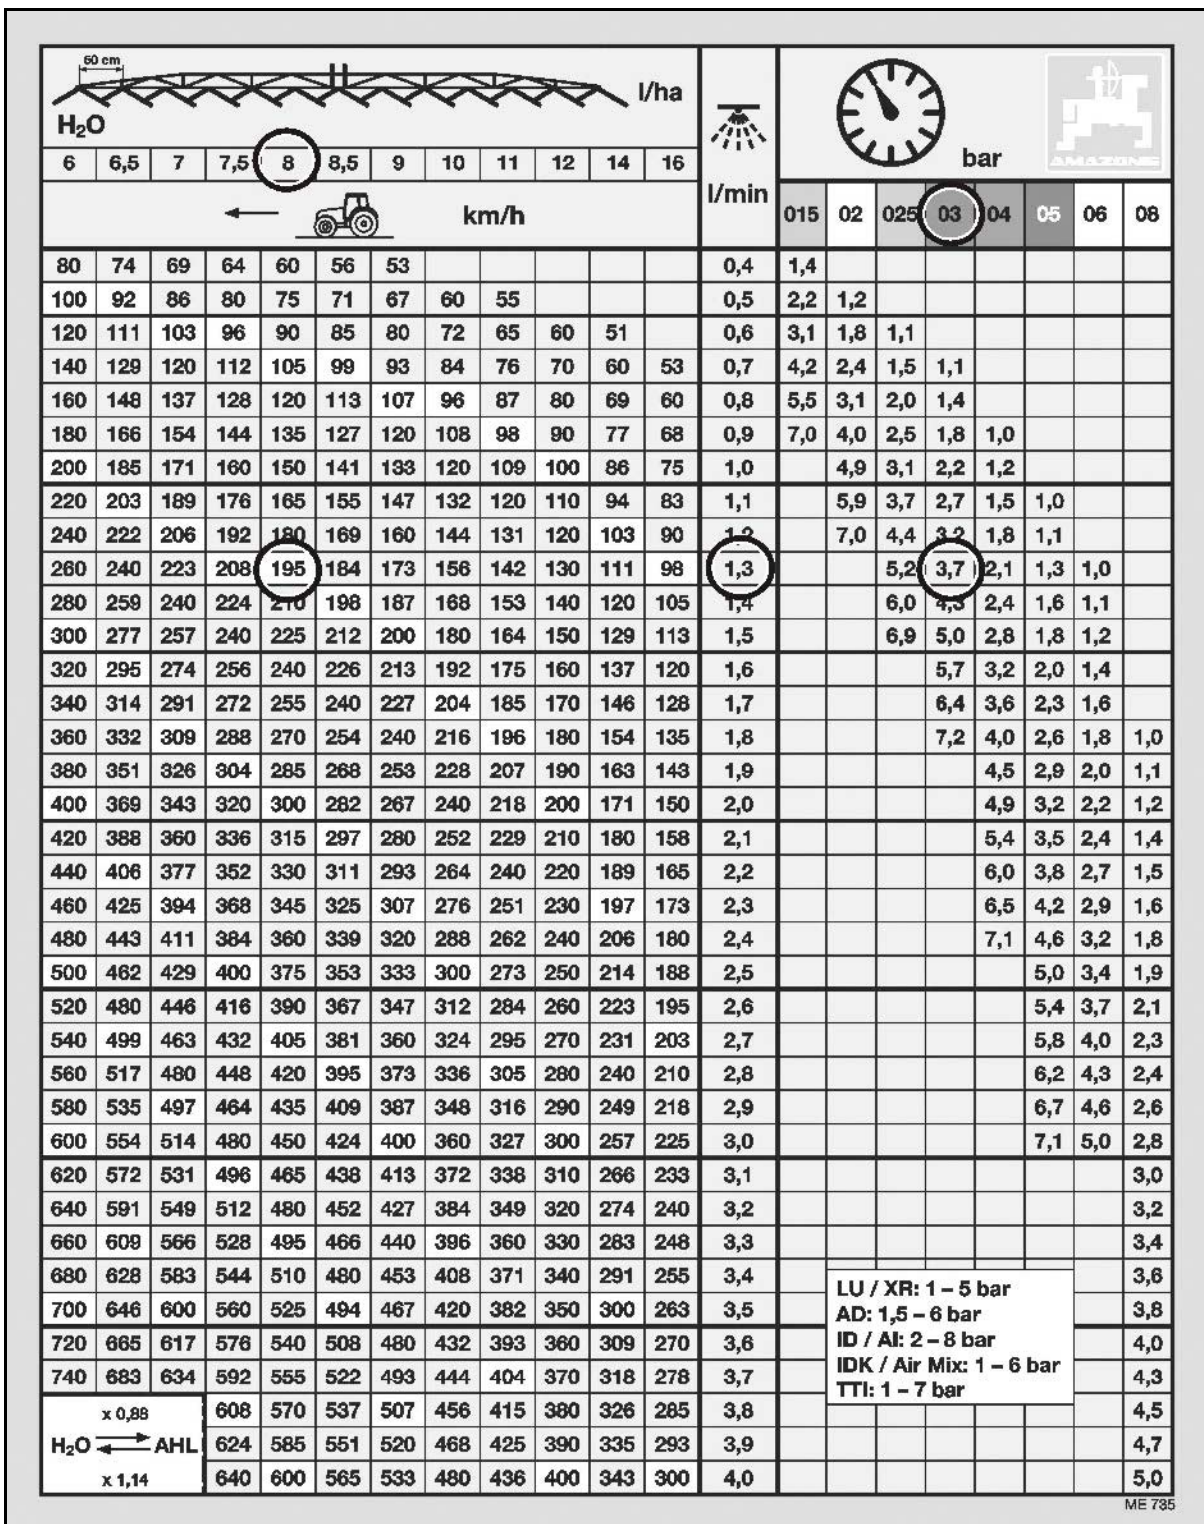

Fig. 183
- Fig. 183 is used to
4. Go to the spray table (Fig. 183).